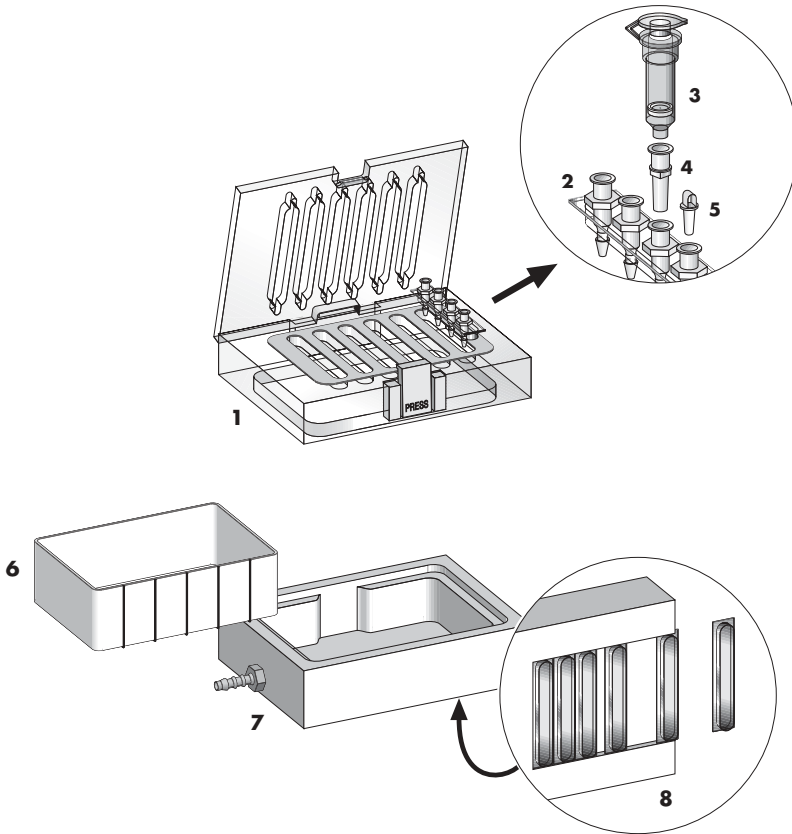

Figure 3. Exploded diagram of QIAvac 6S manifold and components.
For processing QIAamp mini spin columns on the QIAvac 6S, set up the manifold as follows (see also Figure 3):
- Use the blanks provided to close unused slots of the QIAvac 6S. Blanks are stored in the underside of the QIAvac base plate when not in use (Figure 3, page 22). Do not store blanks in slots of the QIAvac 6S top plate as this can cause deformation of the gasket.